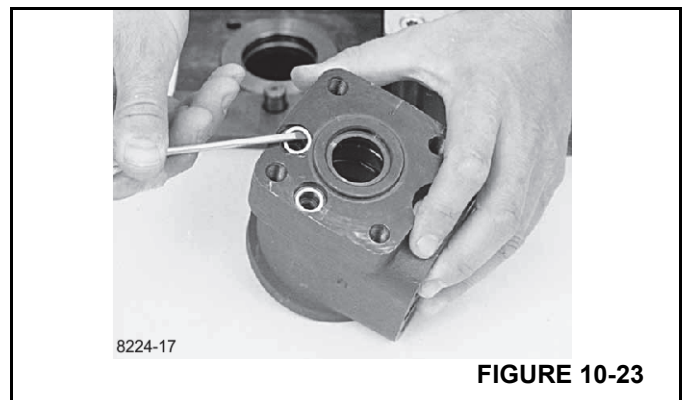

FIGURE 10-23
17. Remove seal washers (Figure 10-23).